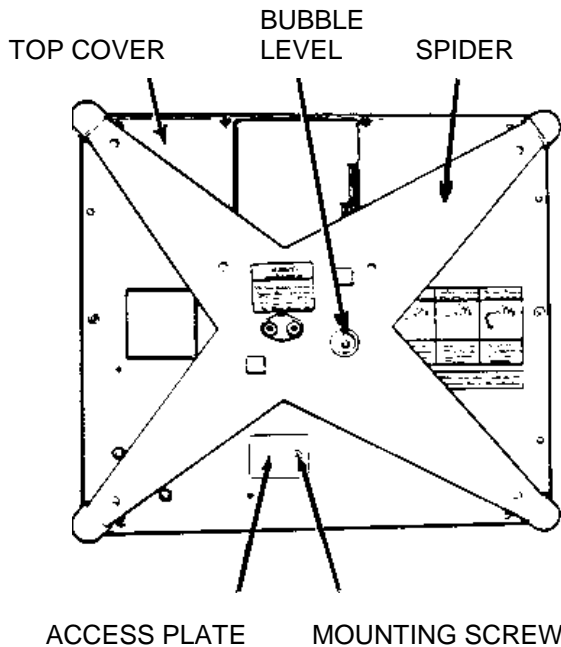

FIGURE 2
IMPORTANT NOTICE...Using the spider (see Figure 2) to lift the 8213 out of its shipping carton could permanently damage the load cell.
3. Remove the access plate, located in the front center portion of the Top Cover, by removing the (1) mounting screw. See Figure 2.
A. ACCESS TO THE MAIN PCB, TRANSFORMER AND DISPLAY PCB. (See Figure 2)